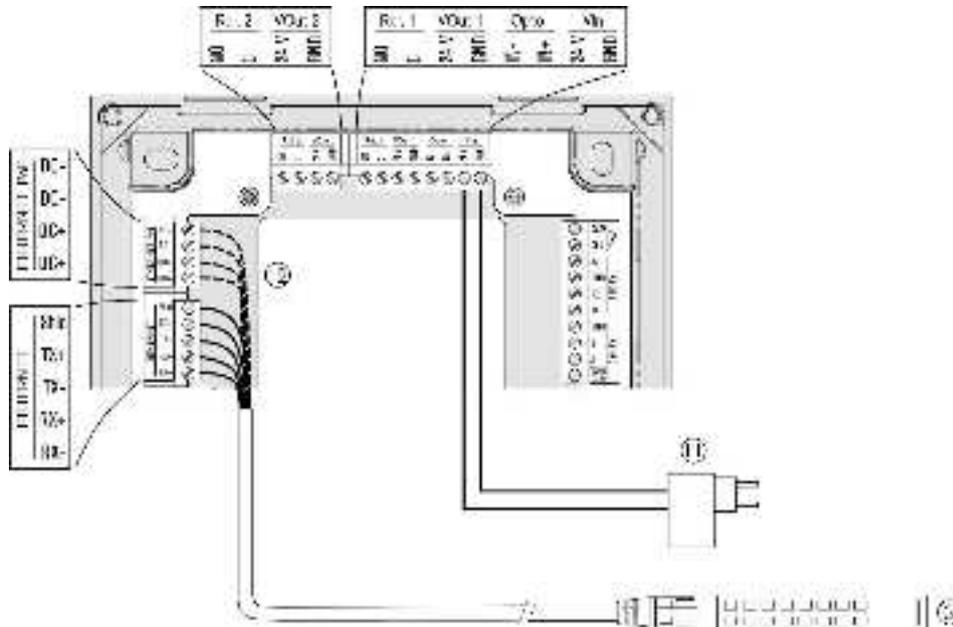

Figure 4.3 – Connection of the power supply
1. See (11) - Via a separate power supply (LPS and SELV - Limited Power Source and Safety Extra-Low Voltage)
- ▶ Connect the wires of the power supply connection cable to the "Vin" screw terminals as shown in Figure 4.3.
- ▶ Plug the power supply (11) into the power outlet.
2. See (12) - Via Power over Ethernet (PoE)